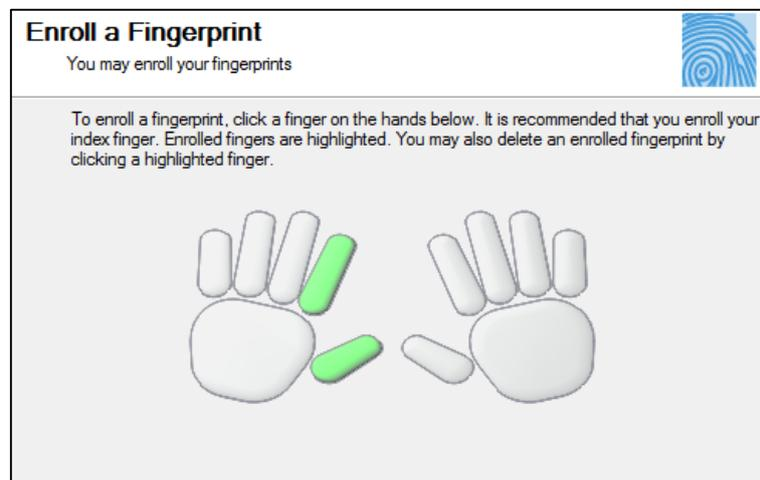

Figure 6
2. Click the finger for which fingerprint data needs to be deleted. A pop-up will appear as shown in **Figure 6**.